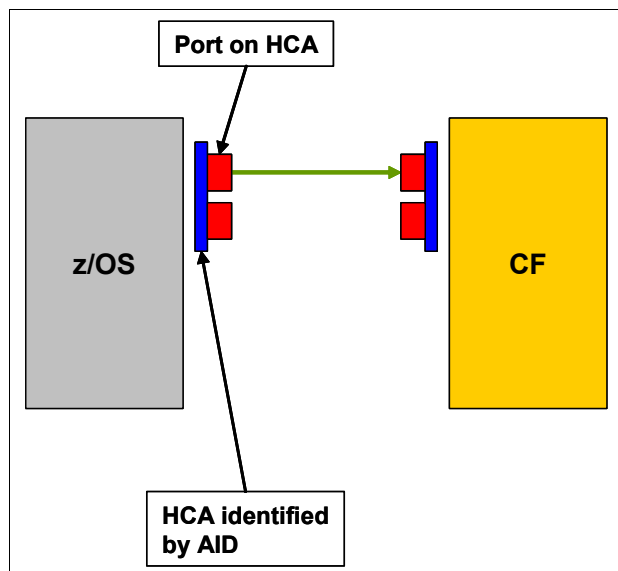

Figure 6-2 PSIFB link between two System z processors
A PSIFB link is a coupling link that connects a z/OS logical partition to a Coupling Facility (CF) logical partition through a port on a host channel adapter (HCA) using a physical cable to a compatible adapter on a different processor (see Figure 6-2).